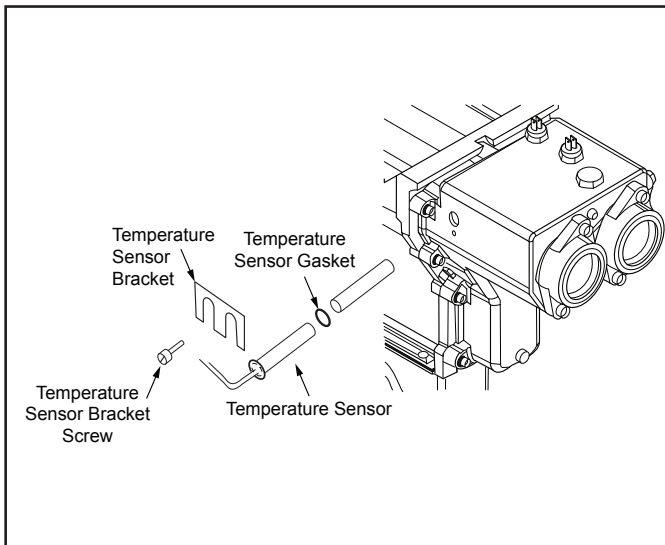

Figure 3. Temperature Sensor
8. Remove the screw holding the temperature sensor bracket and remove the temperature sensor (see Fig 3.).